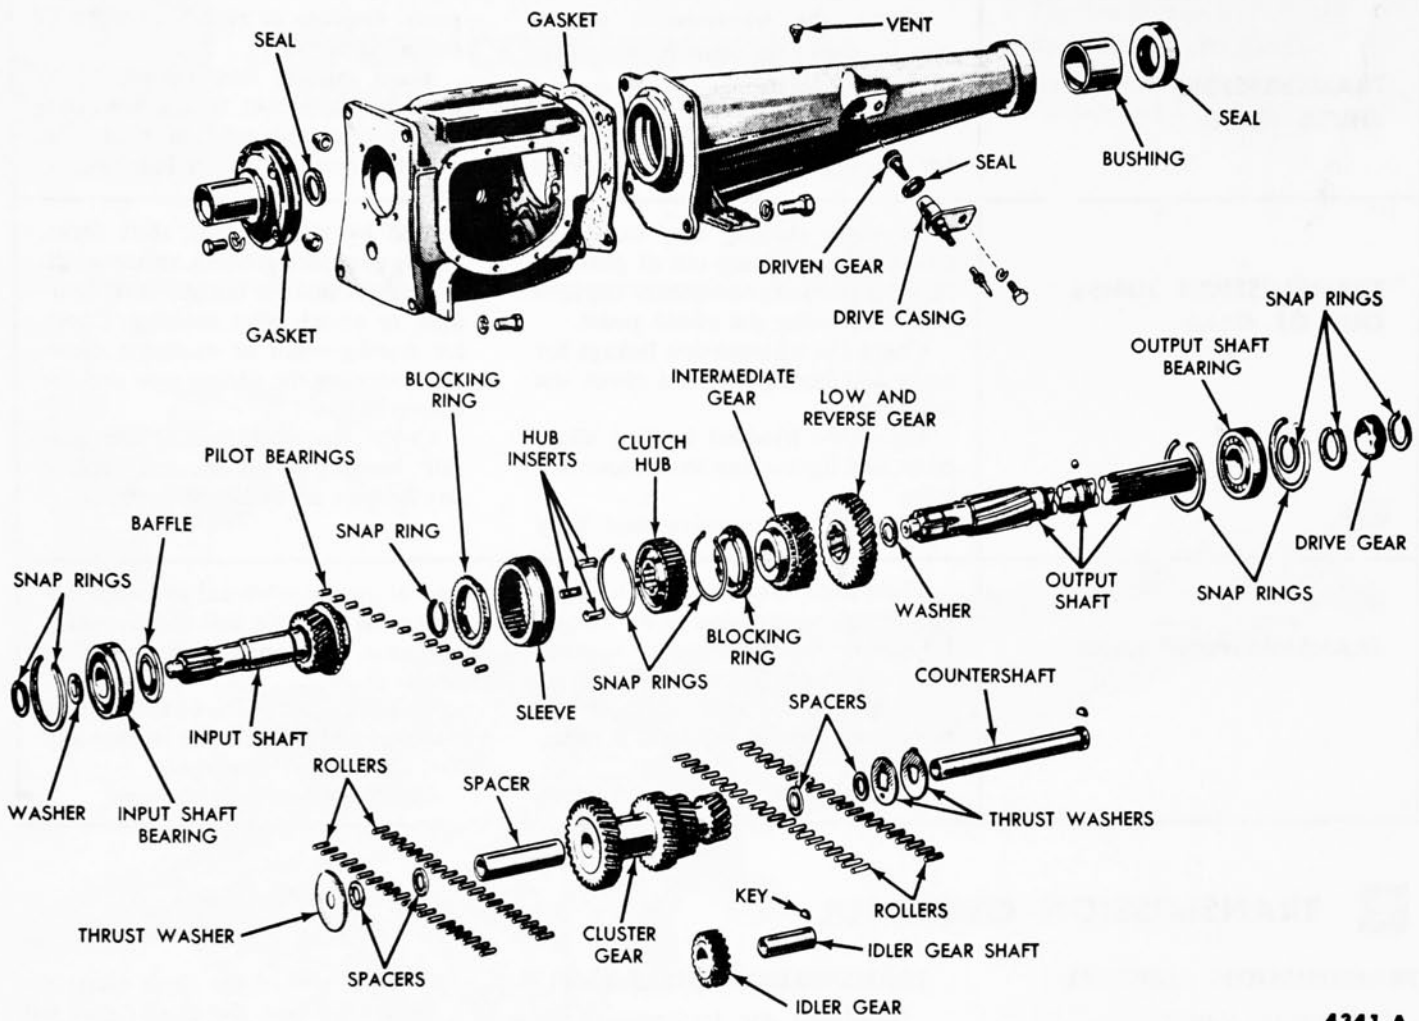
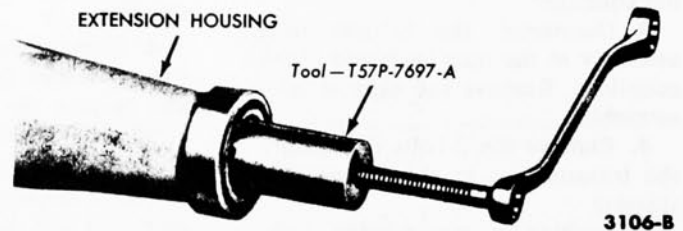
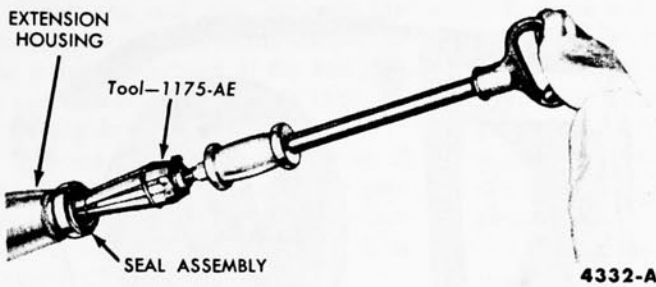

FIG. 2—3-Speed Conventional Drive Transmission Disassembled
FIG. 4—Oil Seal and Bushing Removal
FIG. 5—Oil Seal Removal
4. Remove the snap ring and the spacer washer from the input shaft, and remove the snap ring from the input shaft bearing (Fig. 2).
13. If the extension housing bushing (Fig. 2) is worn or damaged, remove it, using the tool shown in Fig. 4. If the seal only is to be removed, use the tool shown in Fig. 5. **The**